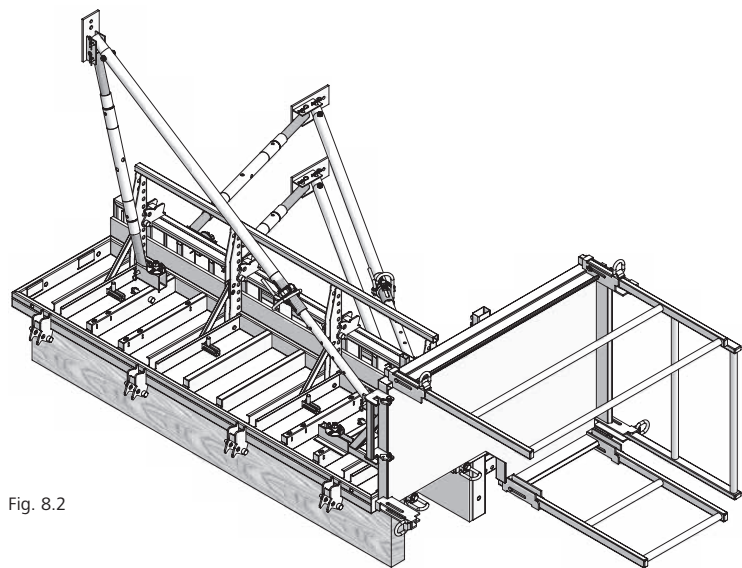

Fig. 8.2
5. Screw the hammer-head screws into the access platform and tighten the wing nuts (Fig. 8.2).